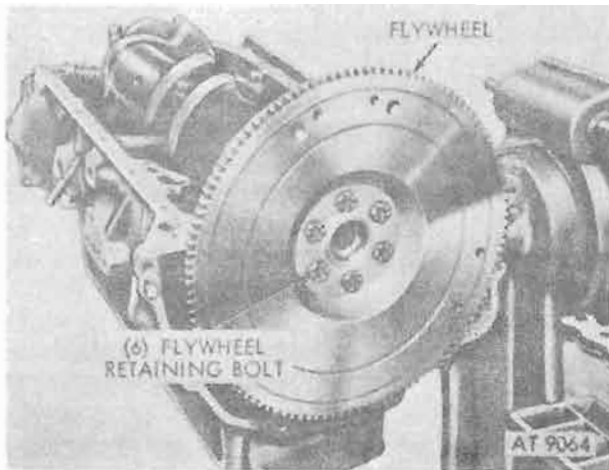

Figure 4-246. Flywheel.
a. *Install Flywheel.* Position flywheel assembly in place and crankshaft flange with bolt holes aligned. Flywheel-to-crankshaft bolt holes are equally spaced, hence flywheel can be installed in any position. Apply sealer, water-and-oil-resistant, on threads of six self-locking $7/16-20 \times 1\frac{1}{2}$ flywheel retaining bolts and install. To prevent sealer from entering tapped-through holes in crankshaft, do not use sealer on first two starting threads on bolts. Tighten bolts in sequence across from each other to 75-85 lb.-ft. torque. Refer to figure 4-246.